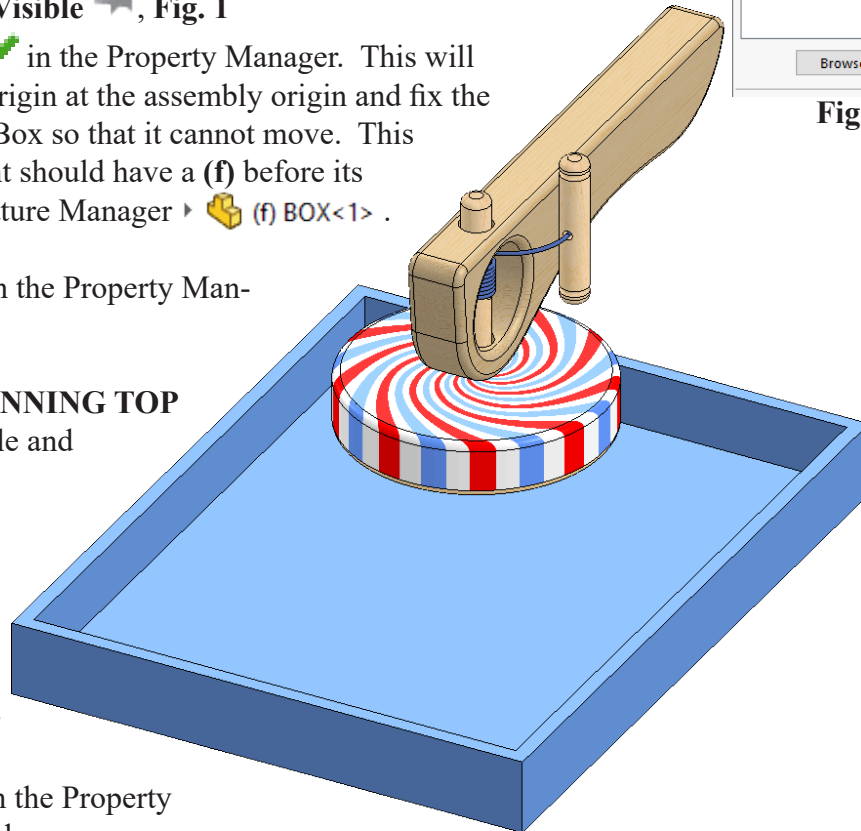

Fig. 2
Step 6. Click approximately where the Spinning Top is positioned in **Fig. 2**.